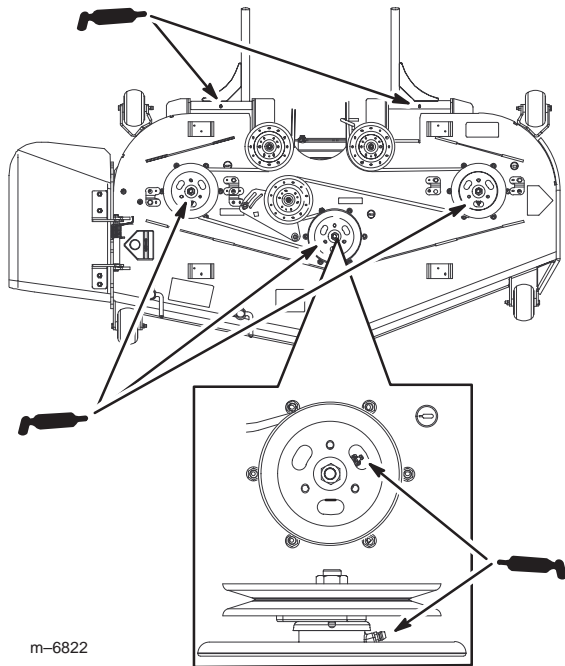

Figure 48
3. Grease the three spindle bearings under the pulleys until grease comes out the lower seals (Fig. 48).
4. Grease the fittings on the push arms (Fig. 48).